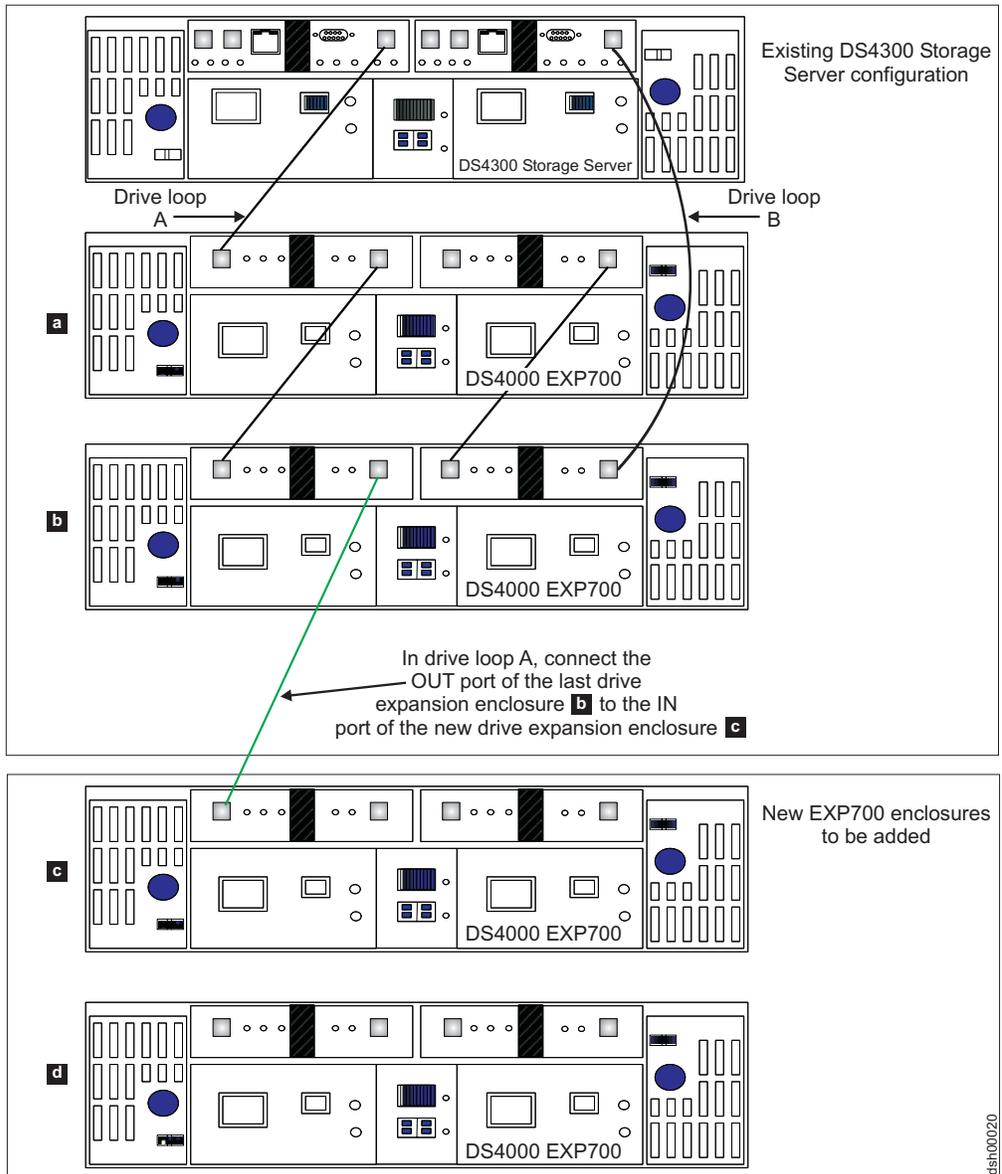
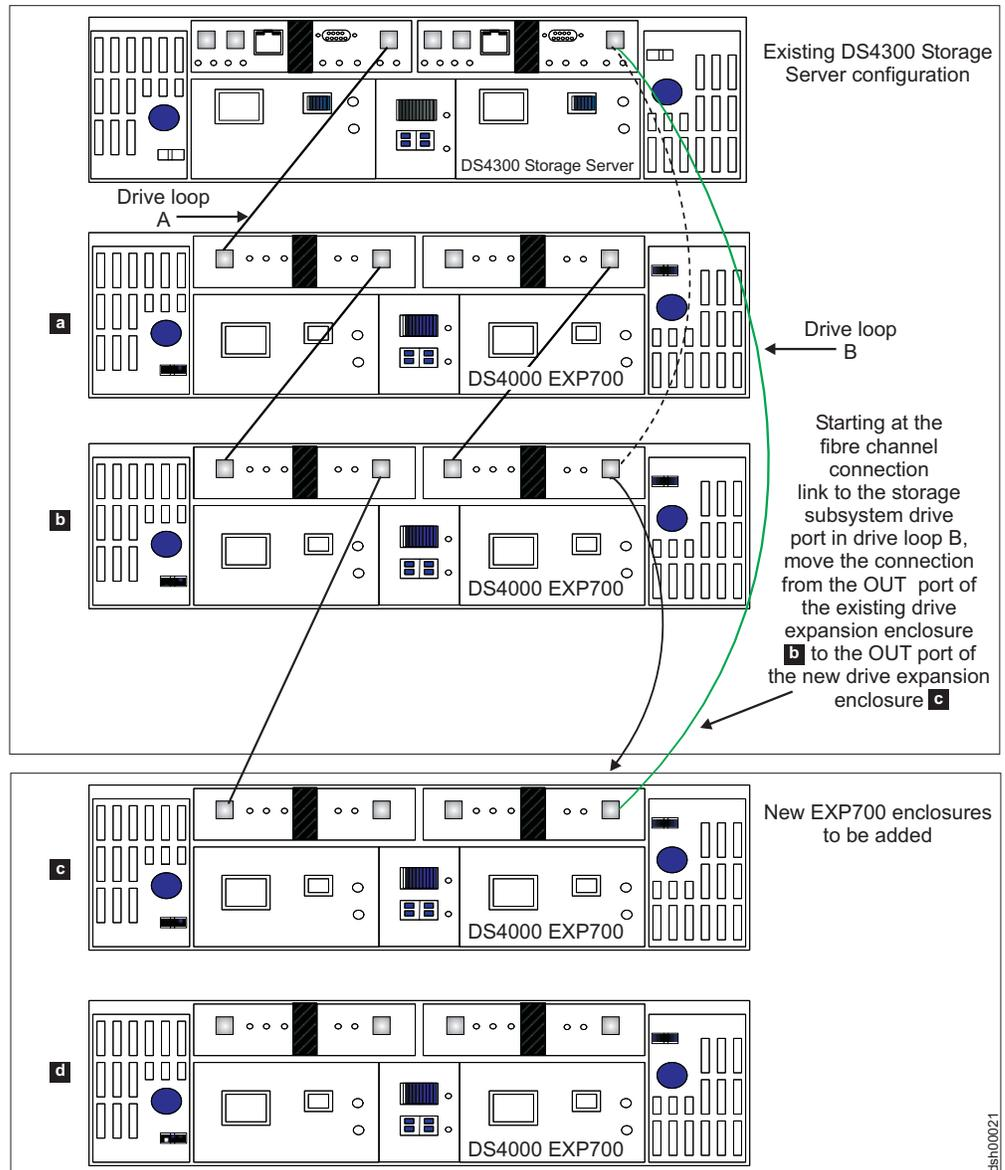
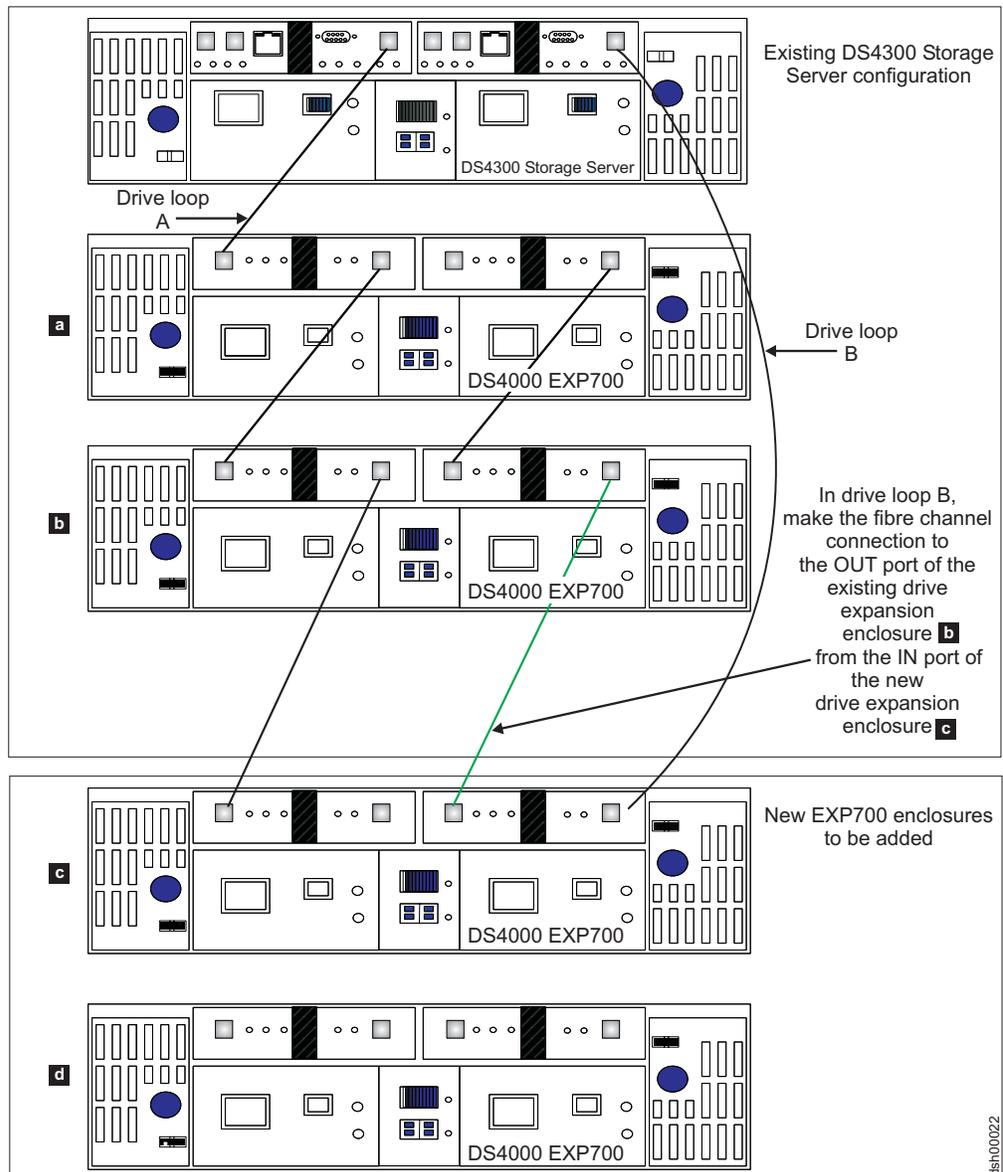

Figure 31. Cabling a single drive enclosure to the end of a functioning drive loop (step 1 of 3)
Figure 32. Cabling a single drive enclosure to the end of a functioning drive loop (step 2 of 3)
Figure 33. Cabling a single drive enclosure to the end of a functioning drive loop (step 3 of 3)
Cabling instructions in the steps that follow are based on the cable routing scheme that is documented in *IBM TotalStorage DS4000 Storage Manager installation and support guides*. The cabling instructions illustrated in Figure 31 on page 86, Figure 32 on page 87, and Figure 33 on page 88 describe cabling a DS4000 EXP700 Storage Expansion Enclosure to the end (bottom) of a redundant drive loop of a functioning DS4300 Storage Server (model 60X or 60U). Again, IBM recommends that you add storage expansion enclosures only in this manner.
- ___ Step 2. Extend one of the drive loops (that is, drive loop A) in a DS4000 Storage Server redundant drive loop pair by connecting the OUT port of the last storage expansion enclosure to the IN port of the new storage expansion enclosure as shown in Figure 31 on page 86.
- ___ Step 5. In the other drive loop (that is, drive loop B) in a DS4000 Storage Server redundant drive loop pair, remove the connection from the storage subsystem drive loop port to the OUT port of the last storage expansion enclosure and connect it to the OUT port of the new drive enclosure as shown in Figure 32 on page 87.
- ___ Step 7. In drive loop B, cable the new drive enclosure's IN port to the OUT port of the last enclosure in the already functioning storage expansion enclosure drive loop as shown in Figure 33 on page 88.